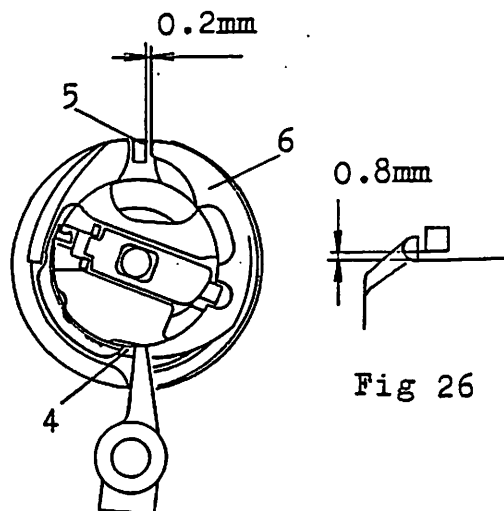

Fig 25
1. Turn the machine pulley until the opener presses the projection of hook(4, Fig.25) extremely on its travel.
2. Press the opener to the projection of hook and make the right side clearance between the notch on the bobbin case holder(6, Fig 25) and the tab of the hook retainer(5, Fig 25) 0.2mm as shown Fig 25
3. This adjustment can be done by loosening the screw(7, Fig 25).